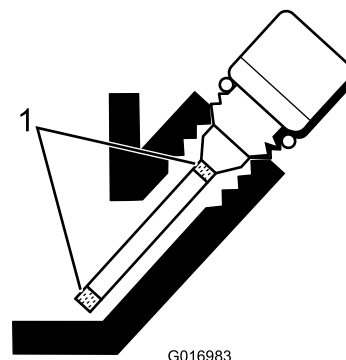

Figure 24
5. If the level is low, add only enough oil to raise the level until it is between the hatch marks on the gauge (Figure 24). **Do not overfill.**